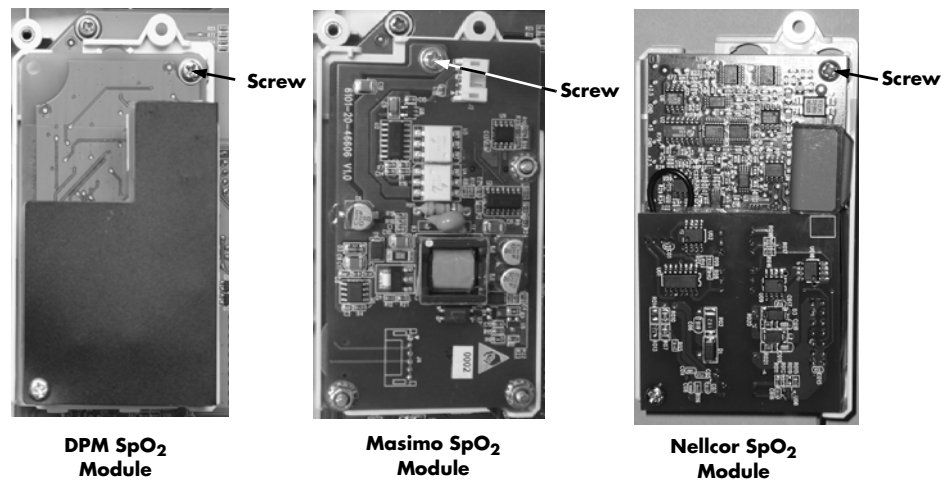

FIGURE 4-9 Remove the screw.
6. Remove the screw (as shown in FIGURE 4-9) to remove the SpO₂ module from the SpO₂ rack.